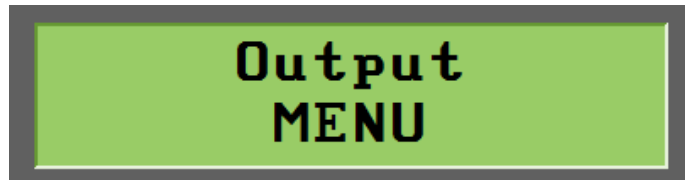

Figure 5-2. Output Menu
2. Using the numbers on the keypad, type the password “16363” and then press “ENTER”. The text in Figure 5-2 will be displayed.